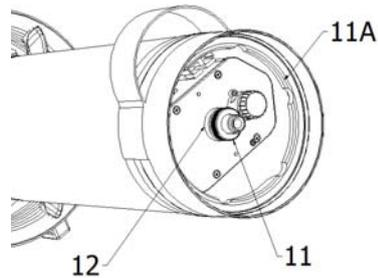
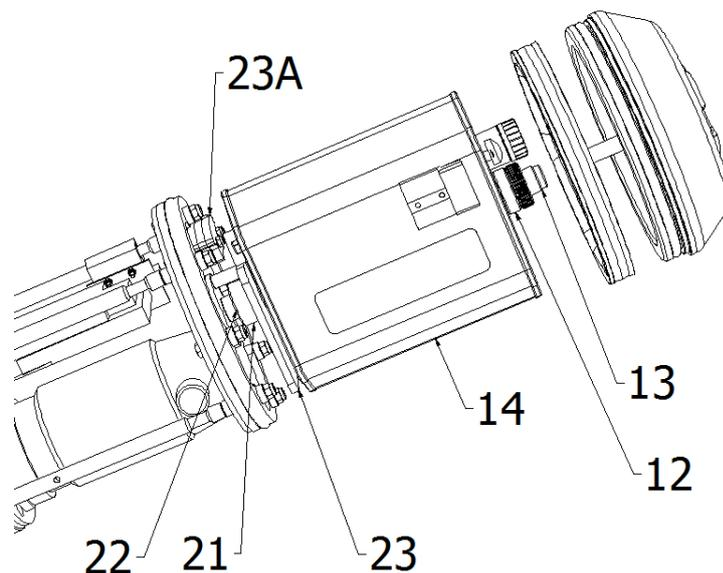

Figure 2
Figure 7 (view of the ADV without the external case)
After removing the shell, stand the ADV vertically, remove the drop trap (11A) detach the red connector (15) (do not pull the wires), unscrew the ring nut (11), remove the red ring (12) (see fig. 2) and extract the battery (14) pulling it upwards off the rod (13). (see fig. 3)
To recharge the battery, extract the battery (14) from the ADV (see fig. 7), put it in a safe place away from people and flammable objects. Unscrew the charger connector cap (24) and connect the charge connector (26) to the battery charger (see battery charger instructions). Next connect the battery charger power cord to the mains. When charged, disconnect the battery charge and close the connector (26) cap (24) and insert the battery in the ADV.
The ADV should have **NEUTRAL** buoyancy **and be practically horizontal** meaning it should not sink but remain stable at the desired depth. The vehicle is supplied neutrally buoyant or slightly float in fresh water. Additional weights (23), are provided to compensate for differences between use in fresh or salt water (see fig. 7) consisting in a stainless steel cylinders that should be included or removed according to whether the ADV is used in fresh water (NOT USED) or seawater (USED).
Proceed as follows to insert the ballast (23): (see fig. 7)
IMPORTANT NOTE: Figure 7 illustrates the ADV in salt water settings, meaning the red ring (12) fig. 2 is positioned above the battery and the ballast (23) is positioned under the battery; when using the ADV in fresh water, the ballast (23) should be removed from the ADV and the red ring (12) is positioned under the battery in the place of the salt water ballast (23).
Speed can be regulated slow or fast, see the previous paragraph fig. 7.